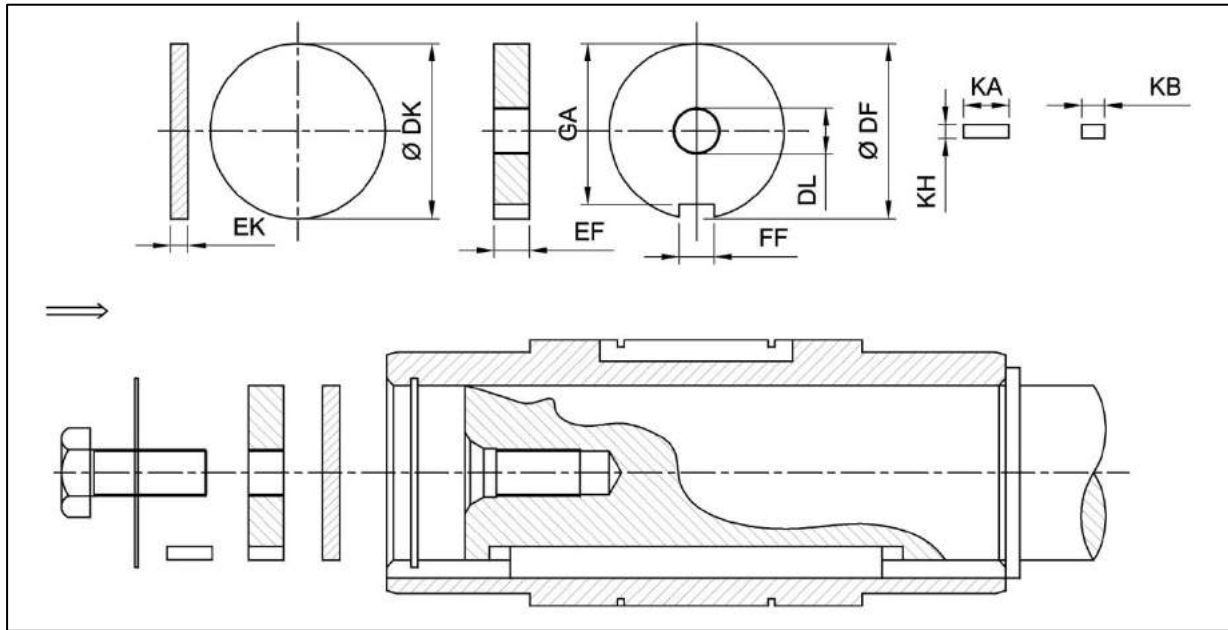

Fig 9
2. With use of Dismounting items (Ref. Fig. 9 & 10), to remove gear from Machine shaft.